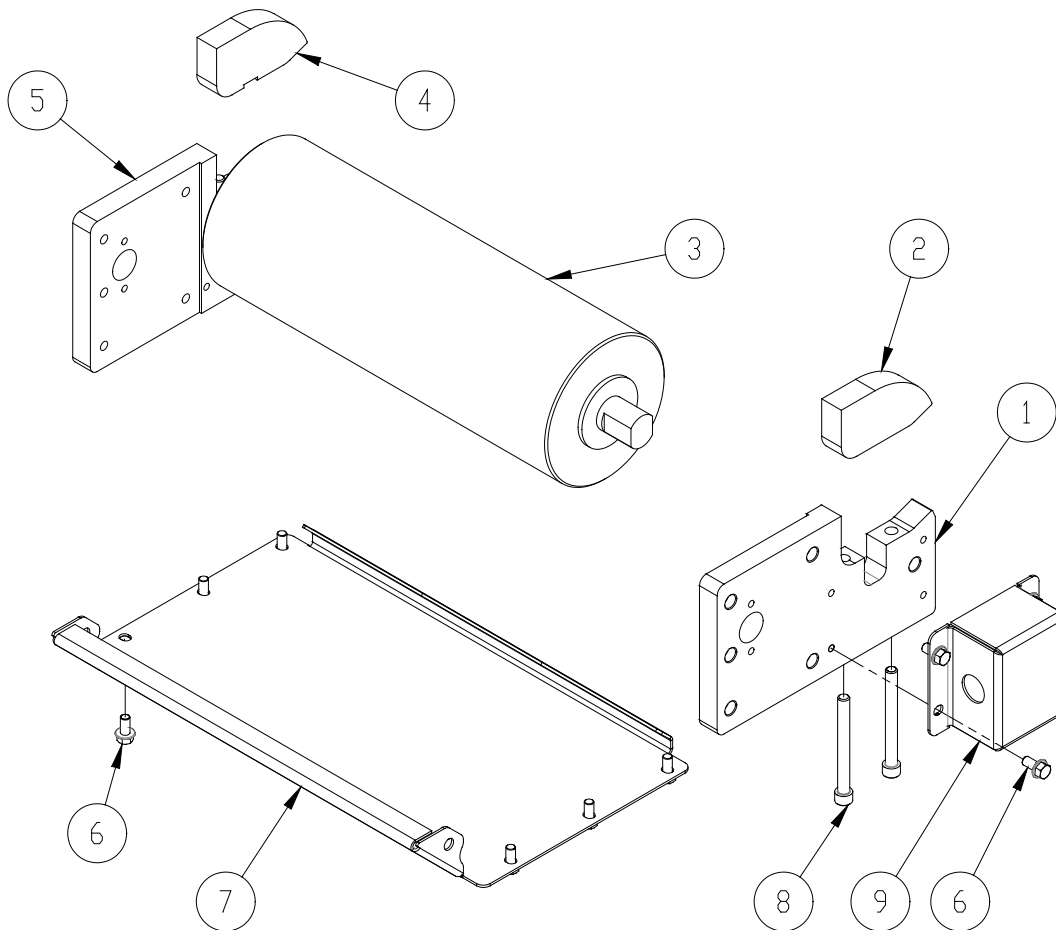

FIGURE 4. DRIVE END COMPONENTS
- 4) Using a 3/8" wrench; remove the 8 screws that fasten the drive pulley cover. Remove the motor cover (item #1, figure 4).
**DRIVE END COMPONENTS (REF. FIGURE 4)**